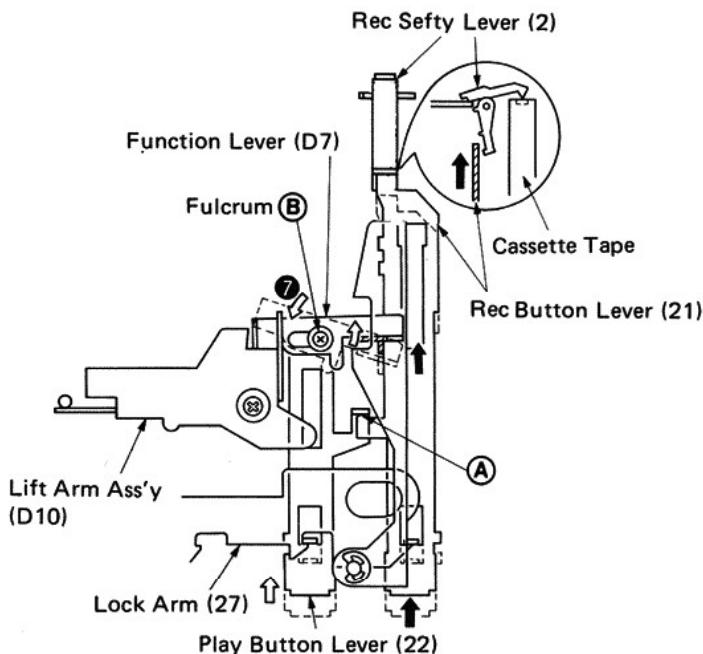

Fig. 30
- 1 When a cassette tape is mounted in position and the REC button is pressed, the REC button lever (21) and the PLAY button lever (22) are locked by the lock arm (27) since these two levers are interlinked with each other at Point (A).
- 2 When the REC button lever (21) slides the function lever begins to rotate around the fulcrum (B) in direction (7). (Fig. 30)